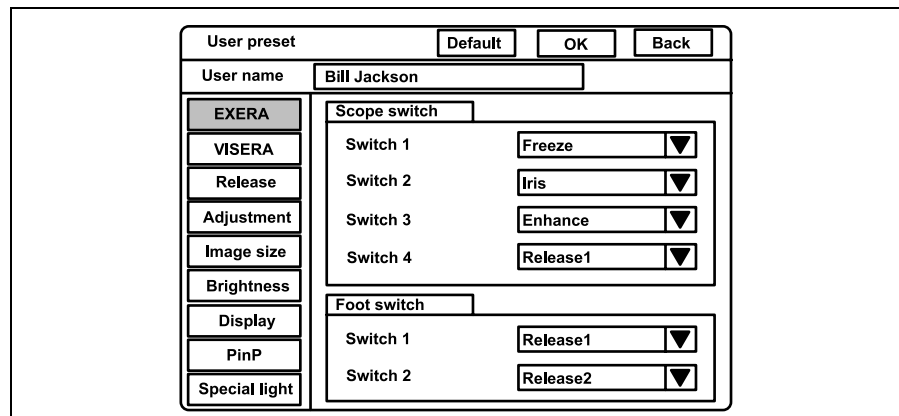

Figure 9.16
2. Click “ ▼ ” of “Scope switch” or “Foot switch” (see Figure 9.16). The available functions appear in the pull-down menu.